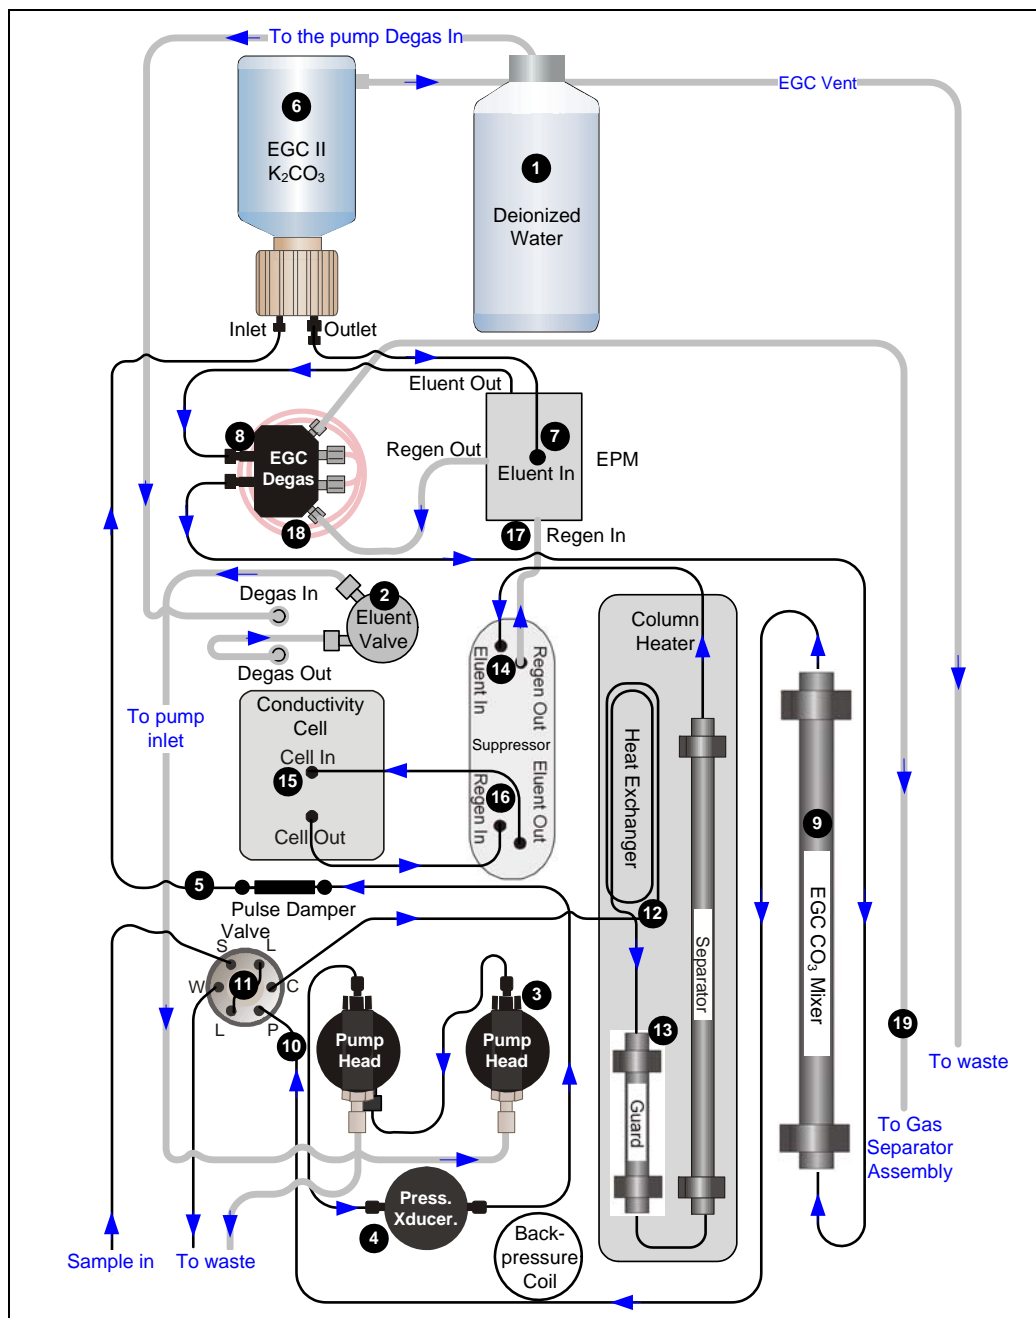

Figure 2-11. Dionex ICS-2100 Flow: Carbonate/Bicarbonate Eluent Generation
- Figure 2-11 illustrates the liquid flow path when the components required for producing carbonate/bicarbonate eluent are installed. The required components include a Dionex EGC II K₂CO₃ EluGen Cartridge, a Dionex EPM Electrolytic pH Modifier, and a Dionex EGC CO₃ Mixer.
Refer to Figure 2-11 for the flow path number locations.